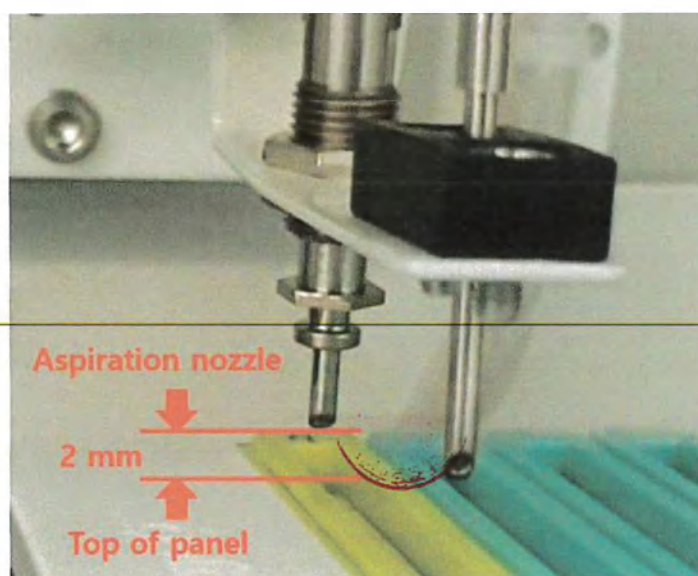

Figure 43
9.5.5.5 Place the panel on the tray and click the "OK" button. The nozzle then moves to the "Allergy-Q64: Strip1_Pump" location and is directed downward. [Figure 43].